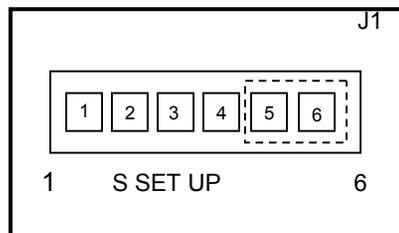

Figure 11
10. Position the jumper on pins **5** and **6** of the **J1 (S SET UP)** header. (*Refer to Figure 11*).